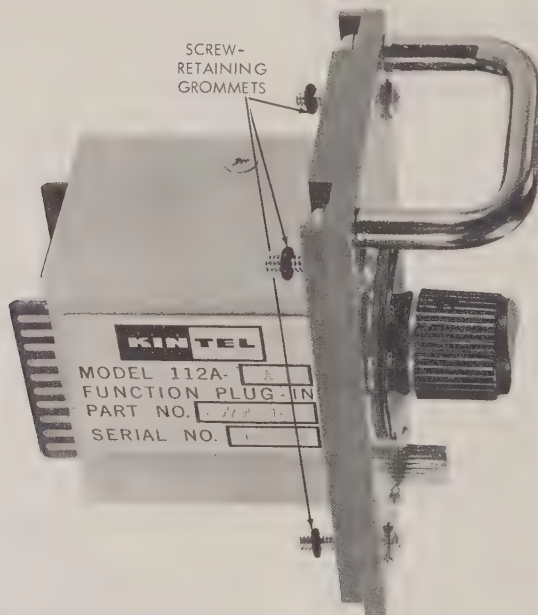

Figure 2-16. Function Plug-In Removed from Amplifier Assembly
- b. With Phillips screwdriver, loosen the four 6-32 x 5/8" screws at the corners of the lower panel section until they disengage the threads in the amplifier chassis. As shown in Figure 2-16,* these screws are retained by rubber grommets on the back side of the panel; this permits loosening of the screws without the necessity of removing them.